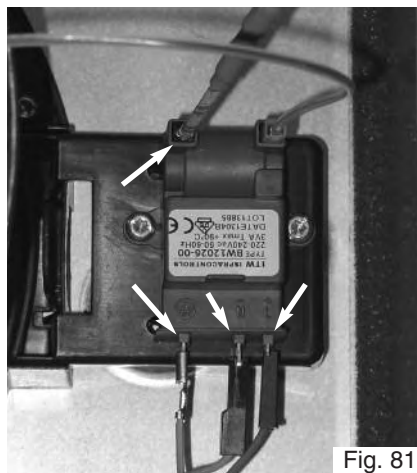

Fig. 81
3. Disconnect the ignition electrode, live, neutral and earth cables from the ignitor. (Fig. 81);